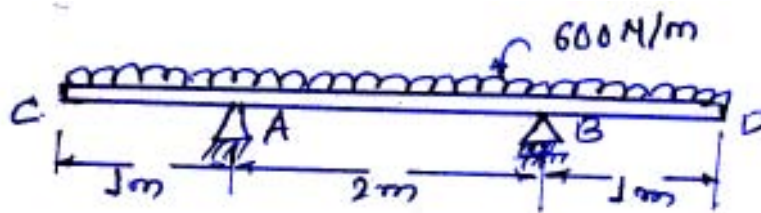

fig. 5
- b) For the simply supported machine element supported as A and B as shown in fig. 5 find :